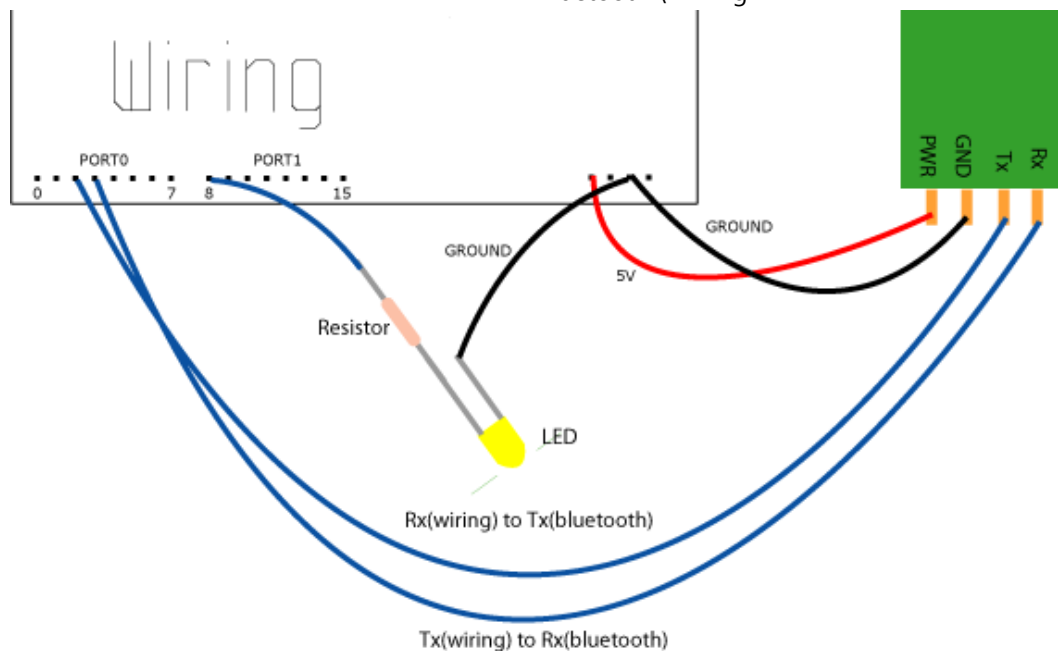

FIGURE 1.
Step 3. We are going to create the setup in Figure 1. First of all connect your LED to your wiring board on whichever pin you want EXCEPT pins 2 or 3 (we have used Pin 8 in this tutorial). See this example for how to connect an LED ( [http://wiring.org.co/learning/examples/led\\_blinks.html](http://wiring.org.co/learning/examples/led_blinks.html) ). Once you have connected your LED to the board it is time to connect your Bluetooth modem. The Bluetooth modem we are dealing with has 4 labeled pins, PWR, GND, Rx and Tx. It is pretty straight forward: connect the PWR pin to the 5V pin on Wiring, connect the GND pin to the GROUND pin on wiring. Then connect the Rx pin to the Tx pin of Wiring (digital pin 3) and connect the Tx pin to the Rx pin of Wiring (digital pin 2). Once it is connected then plug your AC adaptor into the board, if everything is connected right a small green LED will start blinking on the Bluetooth modem.